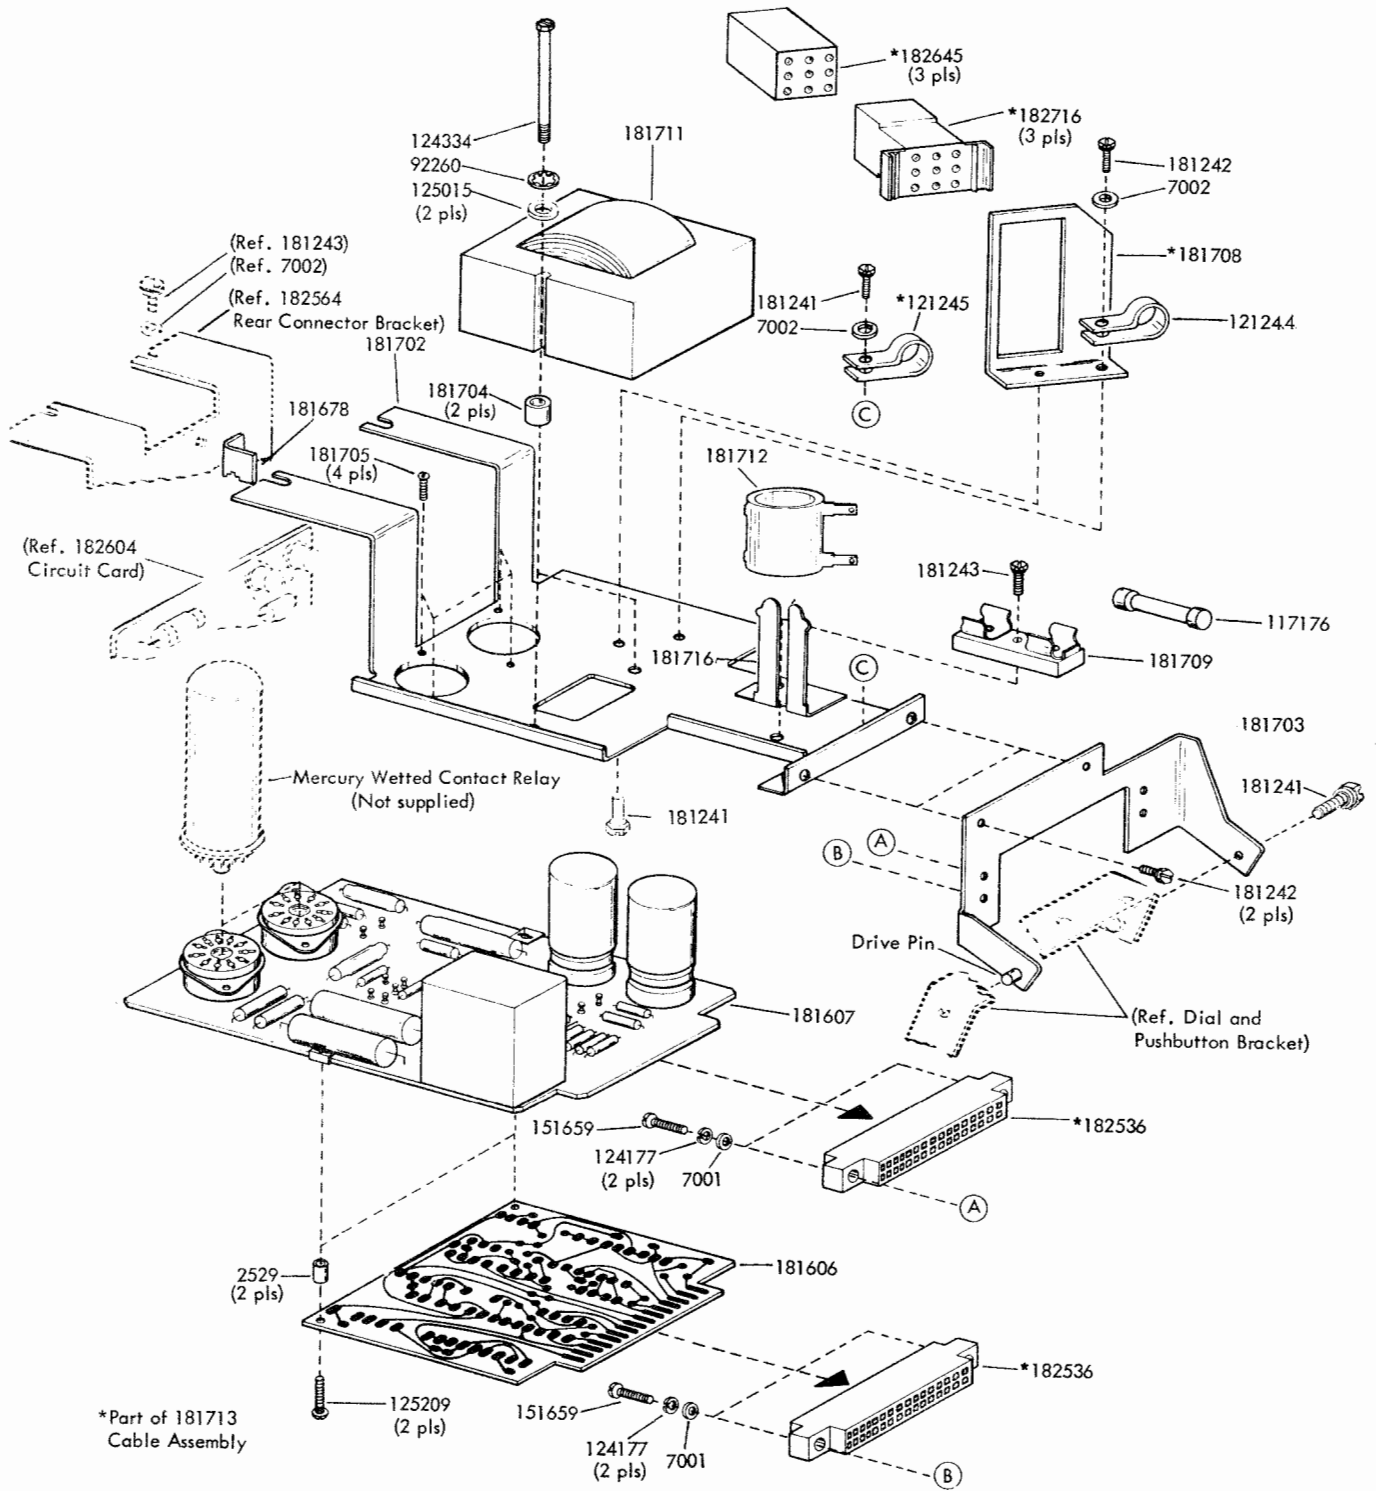

FIGURE 1.
- d. For parts ordering information see Teletype Parts Bulletin 1184B and attached Figure 1.